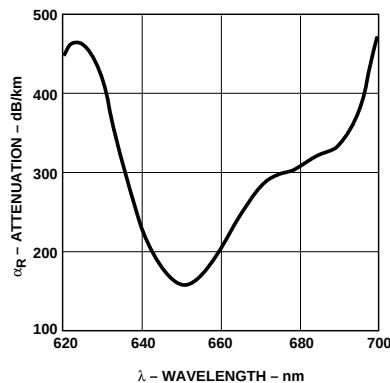

Figure 1. Typical POF attenuation vs. wavelength.
| Reference Attenuation        | Standard Cable, Type "R" | $\alpha_R$ | 0.12 | 0.19                | 0.24 | dB/m | Source is 650 nm, 0.5 NA monochromator,$\ell = 50$ metersNote 7, Figure 1 |
7. Note that  $\alpha_R$  rises at the rate of about  $0.0067$  dB/ $^\circ\text{C}$ , where the thermal rise refers to the LED temperature changes above  $25^\circ\text{C}$ . Please refer to Figure 1 which shows the typical plastic optical fiber attenuation versus wavelength at  $25^\circ\text{C}$ .